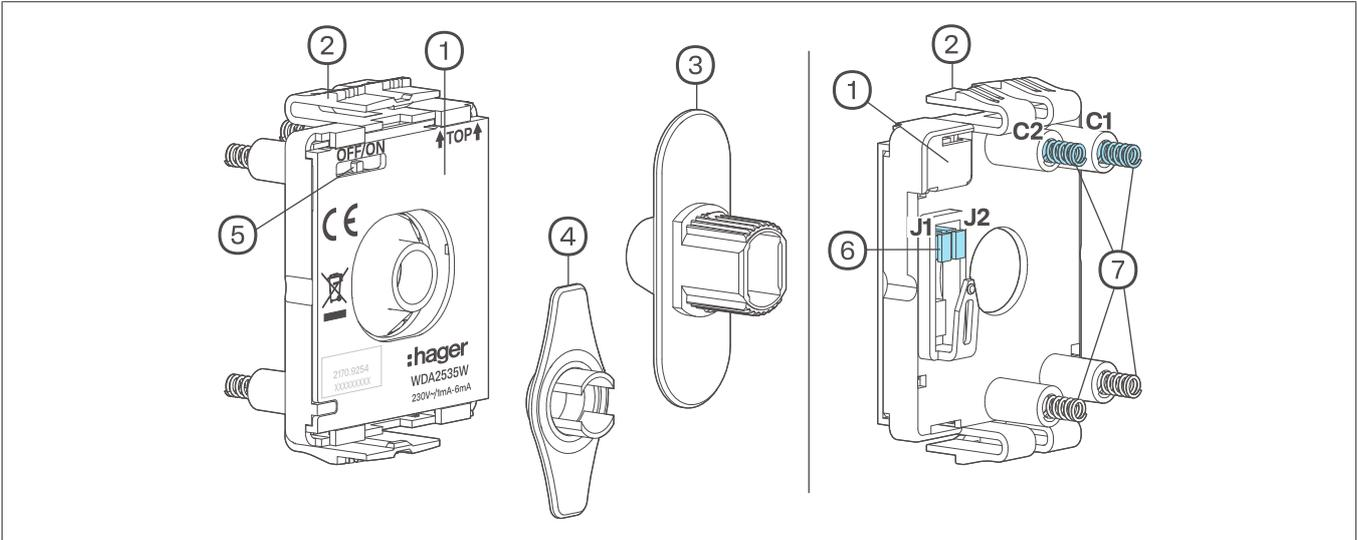

Fig. 1: LED module
- 💡 – Always attach the jumpers vertically as shown (Fig. 1). Install the cover plate (9) first and then the light conductor (3).